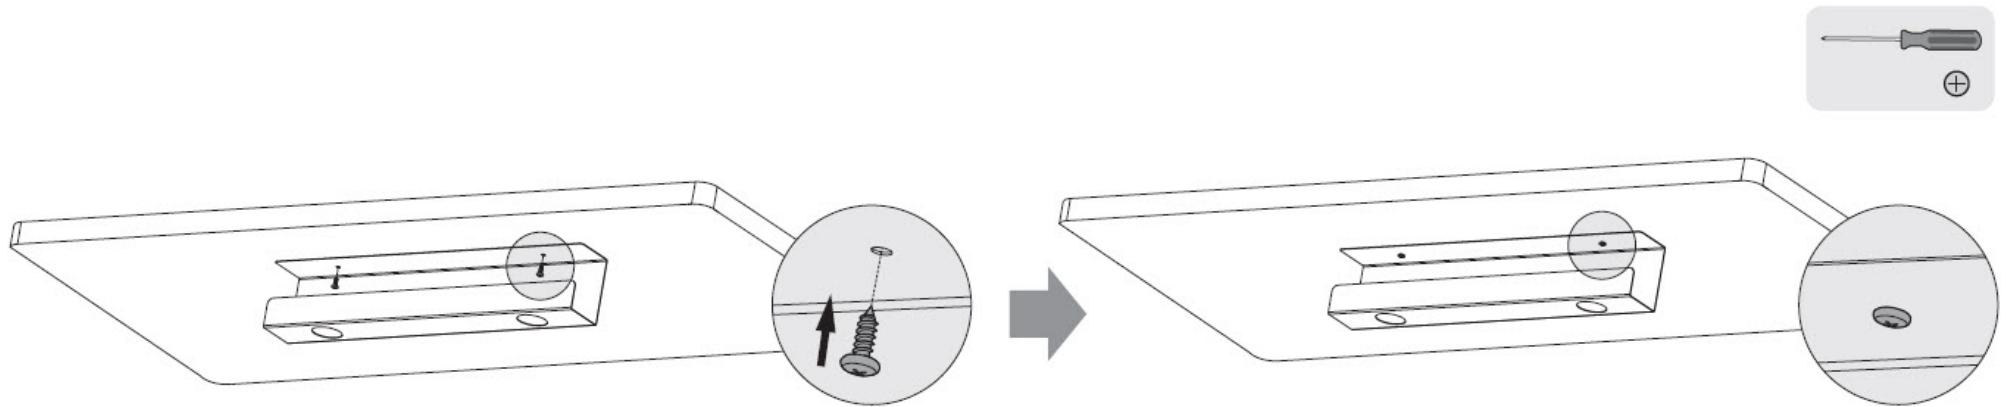

Figure 1
4. Insert the **Mounting Screws** through the **Mounting Holes** and into the **Desk**. (Figure 1)